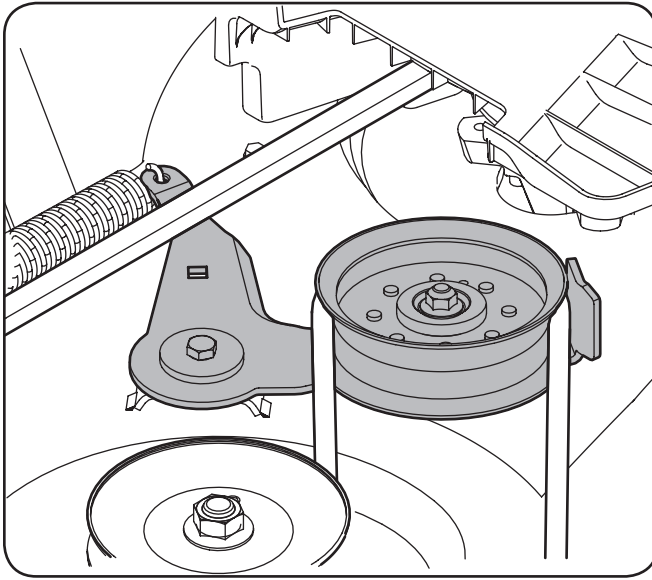

Figure 7-2
7. Working on the right side of the tractor, insert a $\frac{1}{2}$ -inch drive ratchet wrench, set to *tighten*, into square hole found on the idler bracket. See Figure 7-2.
8. Pivot the wrench forward to move the deck drive pulley forward. See Figure 7-2.